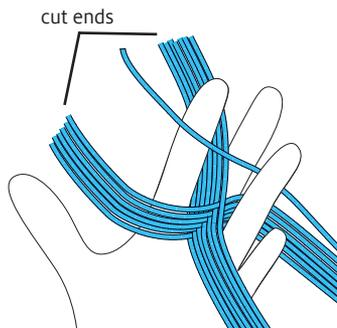

FIGURE 6: HOLD THE CROSS
**15.** Hold the cross in your non-dominant hand, separating each section as in Figure 6. Cut the loops at the end. Remove the cross ties without cutting the warp yarn. Notice that the ends stack up Lincoln-log style.